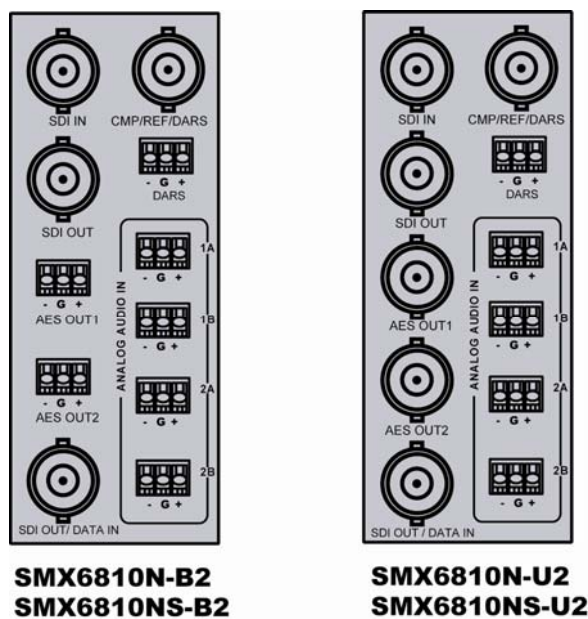

Fig.1-3 Interface board
SMX6810N (S)-B2/SMX6810N (S)-U2 rear interface board shows as Figure 1-3, and detailed description of the interface board is showed in Table 1-3.
Please connect signals based on Fig. 1-3.